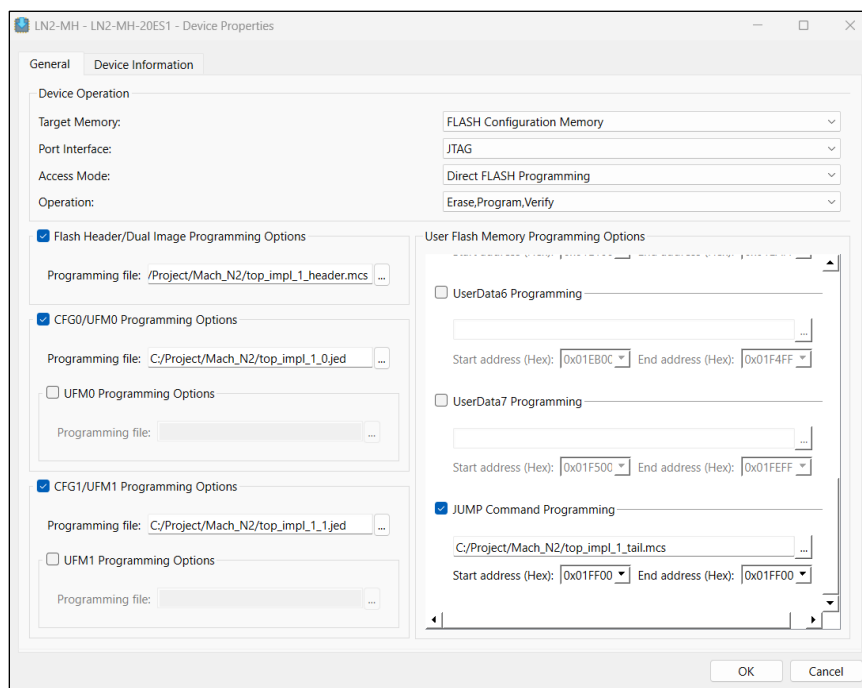

Figure 9.2. Radiant Programmer – Device Properties for FLASH Configuration Memory
7. Set the **Device Properties** fields to the following (Figure 9.2):